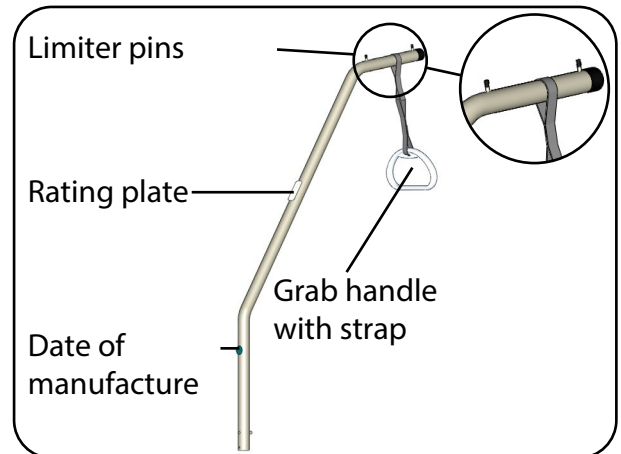

Fig. 6.3.02 – Uplifter (shown here: round tube) with grab handle and strap
4. Position the strap's loop between the two limiter pins on the uplifter (Fig. 6.3.02).